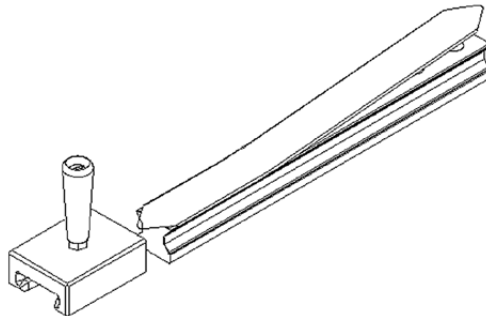

Fig. 5.21 Mounting the cover strip with the help of the HIWIN mounting tool
- ▶ To do this, place the mounting tool on the front side of the rail as shown in Fig. 5.21, and slide it over the entire rail.